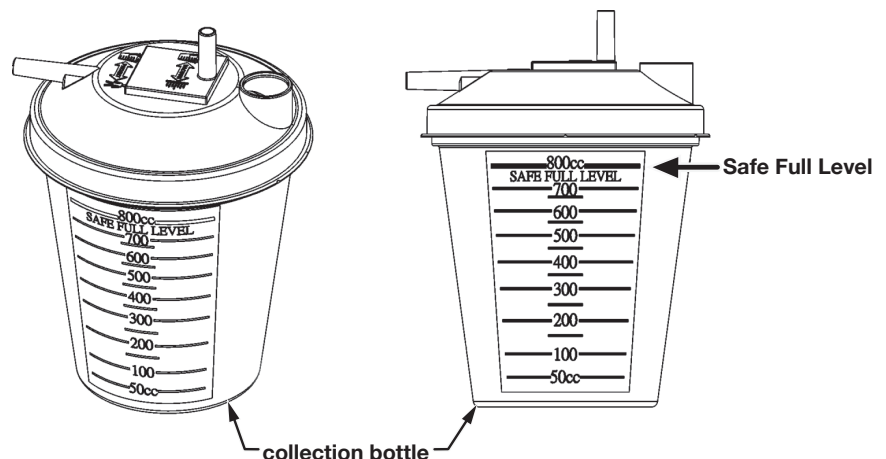

Figure 6
5. When the liquid in the collection bottle reaches the safe full level (800 cc), the float shut-off will activate automatically and suction will stop (Figure 6).